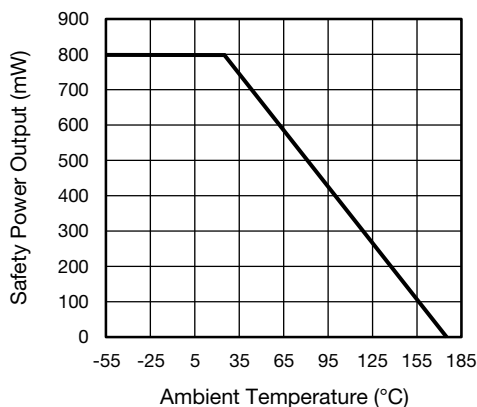

Fig. 4 - Safety Power Dissipation vs. Ambient Temperature
- According to DIN EN60747-5-5 (see figure 4). This optocoupler is suitable for safe electrical isolation only within the safety ratings. Compliance with the safety ratings shall be ensured by means of suitable protective circuits.